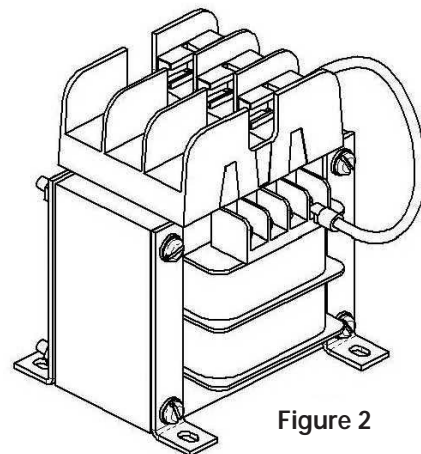

Figure 2
4. Connect the female quick-connect of the jumpers supplied to one of the male quick-connects of the secondary fuse block - one jumper to each end of the fuse block. (See Figure 2)